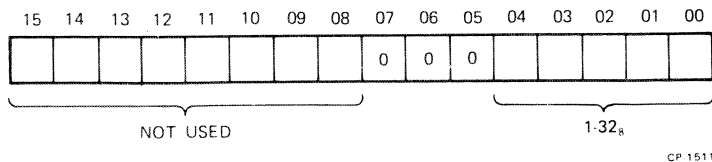

Figure 4-19 RXSA Format (RX11/RXV11)
4.2.2.4 RXSA – RX Sector Address (Figure 4-19) – This register is loaded to indicate on which of the 26 (32₈) sectors a given function is to operate. It can be addressed only under the protocol of the function in progress (Paragraph 4.2.3). Bits 8–15 are unused and are ignored by the control.